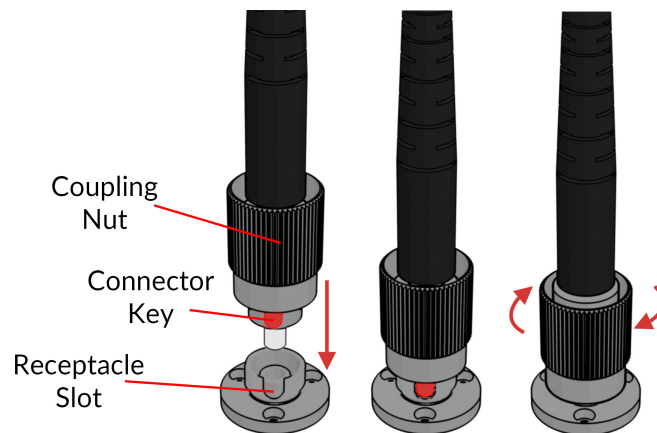

Figure 2.6: FC connector, Fiber Installation
2. With an FC connector, the connector key must be oriented to enter within the receptacle slot to ensure proper connection (Fig. 2.6).